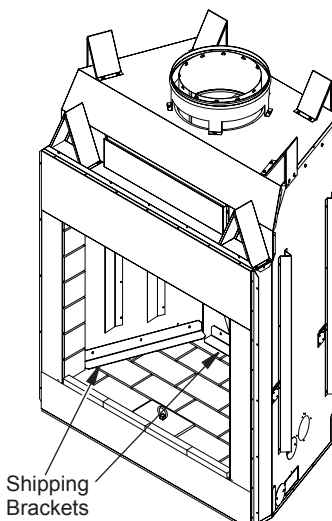

Figure 21 - Removing Shipping Brackets
1. The fireplace is shipped with the hearth preinstalled. It is held in place for shipping with 3 shipping brackets (Figure 21). Remove these brackets before installing any of the other firebrick walls.